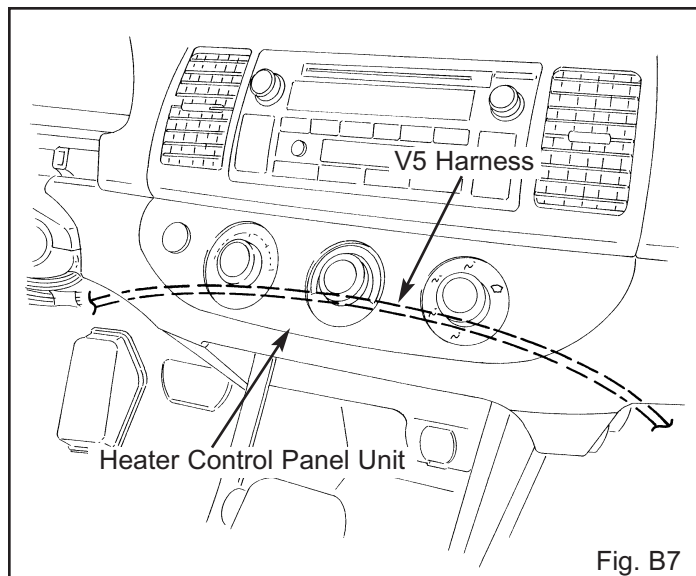

Fig. B7
10. Route the V5 harness behind the heater control panel unit, through the passenger's side of the vehicle. (Fig. B7)